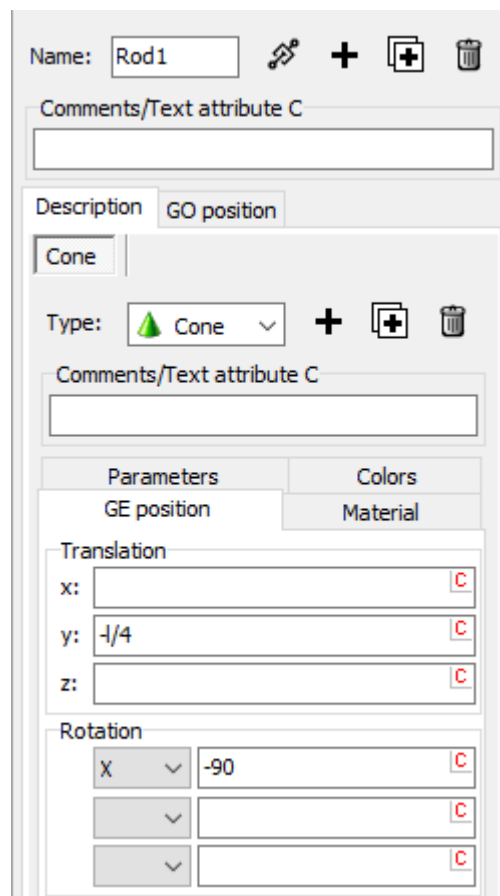

Figure 3.2. Setting the position and orientation of the Rod1 graphic element
3. Go to **GE position** tab. In **Translation | y** field type **-l/4**. In **Rotation** group choose **X** axis and set value **-90**, Figure 3.2.